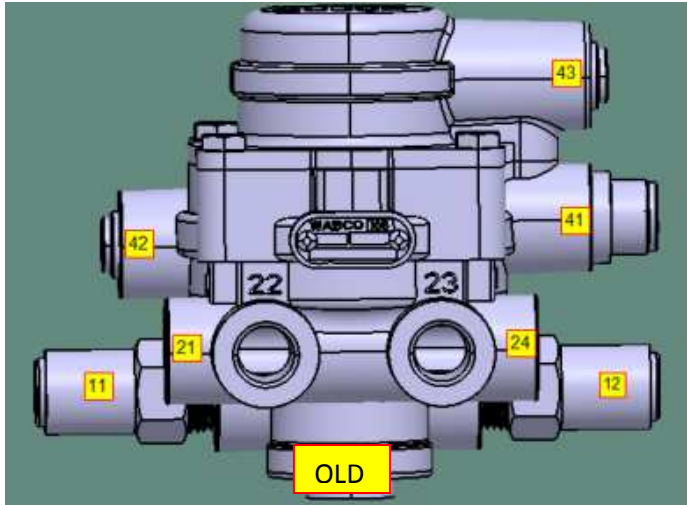
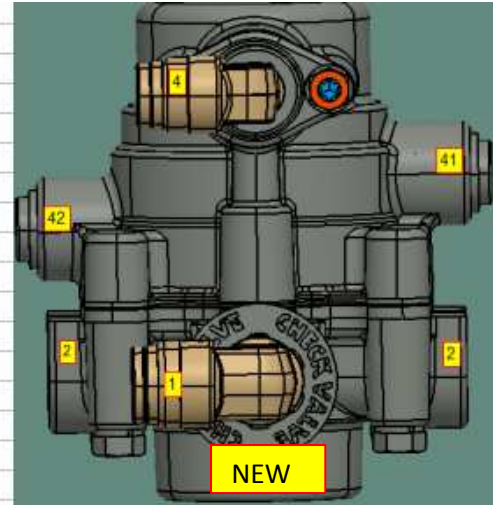
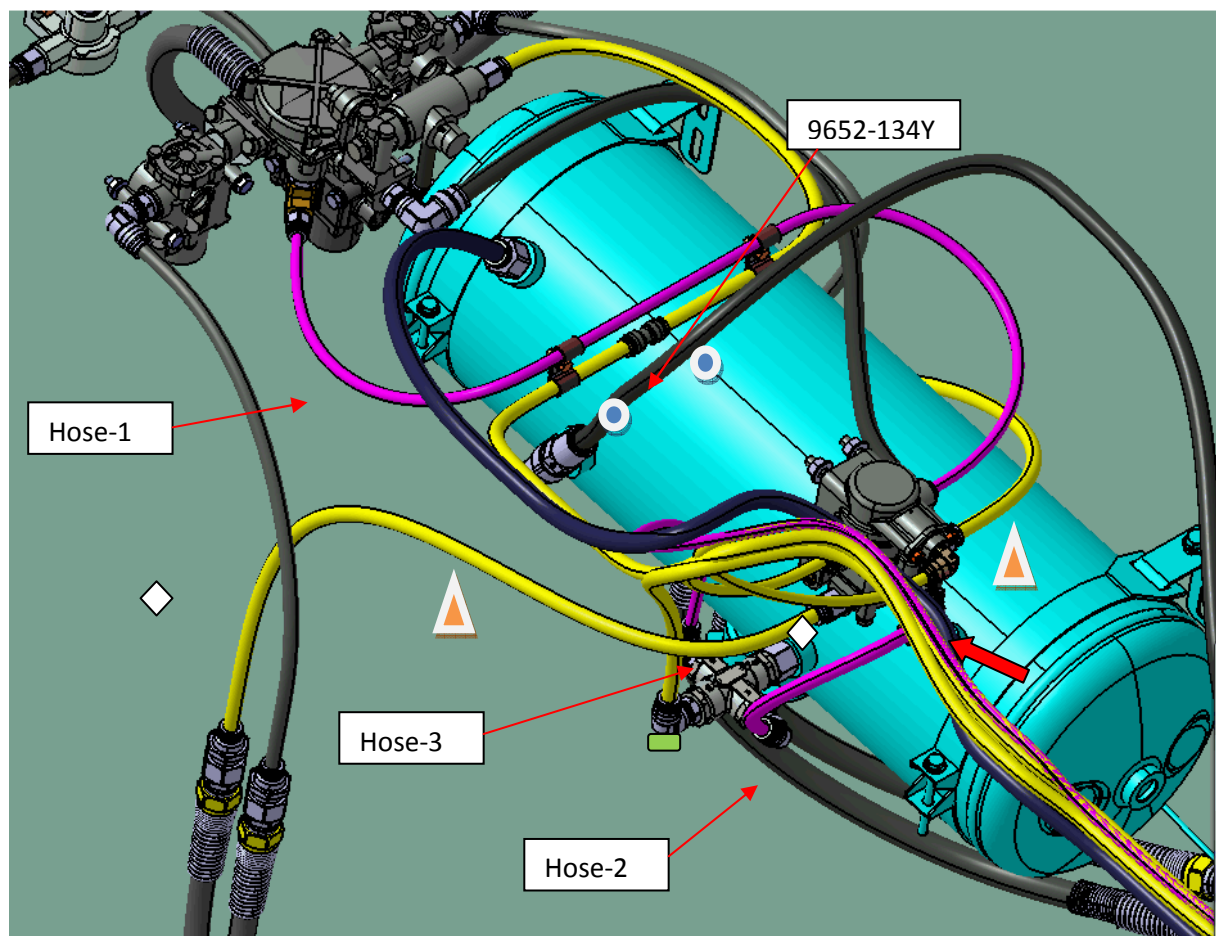

Figure-6
Figure-7
Figure-12 (Top-Side View)
*Old/new IR valves are shown in Figure-6 and Figure-7
*Install the new polyamide hoses (purple) as shown in Figure-12. Details are explained as follows:
Hose 2: Install one side of 1/2" polyamide hose on port 2 of double check valve. Other side of hose must be connected to port 1 on new IR valve. (See ports on Figure-7) Necessary hose length around 0,5m.
*Install the 1/2" polyamide hoses marked with orange triangle on to the two independent Port 22 of new inversion relay valve shown in Figure-12. (The hoses previously disconnected from Port 21 and Port 24 of old inversion relay valve. See Figure-6 and Figure-7 for port details.)
*Install the 1/2" polyamide hose marked with green rectangle on to the port 11 of double check valve shown in Figure-12. This hose is coming from from air brake reservoir and previously disconnected from port 11 of old inversion relay valve.
*Install the 3/8" polyamide hose marked with red arrow on to the port 4 of new inversion relay valve shown in Figure-12. This hose is previously disconnected from port 43 of old inversion relay valve.
*Install the 3/8" polyamide hose marked with white diamond on to the port 42 of new inversion relay valve shown in Figure-12. This hose is previously disconnected from port 42 of old inversion relay valve.